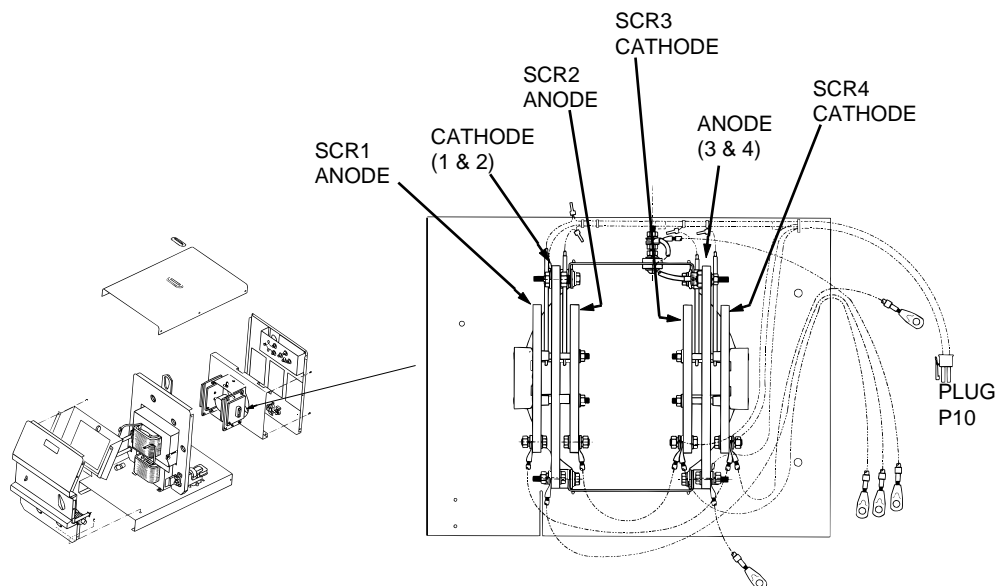

FIGURE F.12 - SCR TEST POINTS.
SCR Heat Sink Assembly Drawing, Figure F.12
3. Remove red insulating paint from heat sink test points. See Figure F.12. DO NOT DISASSEMBLE THE HEAT SINKS.